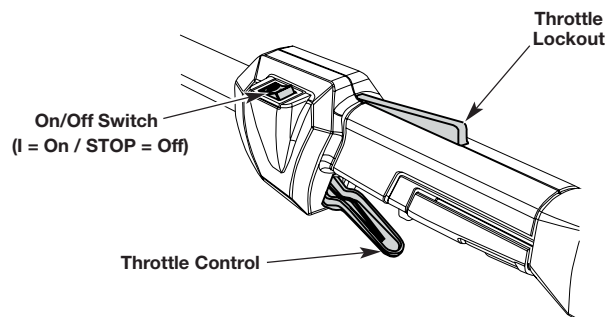

Fig. 7
**NOTE:** There is no need to turn the unit on. The On/Off switch is in the On ( I ) position at all times (Fig. 7).
7. To increase trimmer cutting speed, press and hold the throttle lockout with one hand, and then squeeze the throttle control with the other. The further you squeeze the throttle control, the more the cutting speed will increase (Fig. 7).
2. Press and hold the On/Off switch in the Off (O) position until the engine comes to a complete stop (Fig. 7). Make sure the cutting attachment has stopped before the unit is set down.